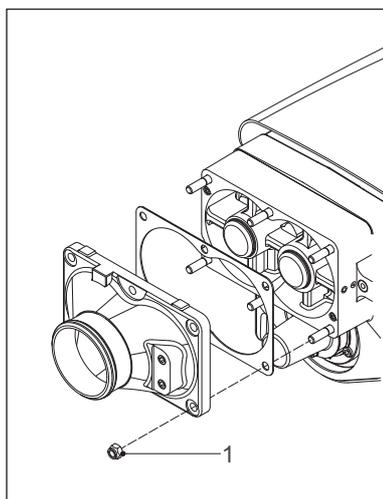

Figure 9. Inlet Flange
Tighten item 1 fig. 9 to torque of 50 Nm. See above.
Where any pipe work is to be fabricated using slip-on-weld flanges, such as on the inlet in Fig 9, the following points should be followed to prevent damage to the machine and contamination of the discharged product.